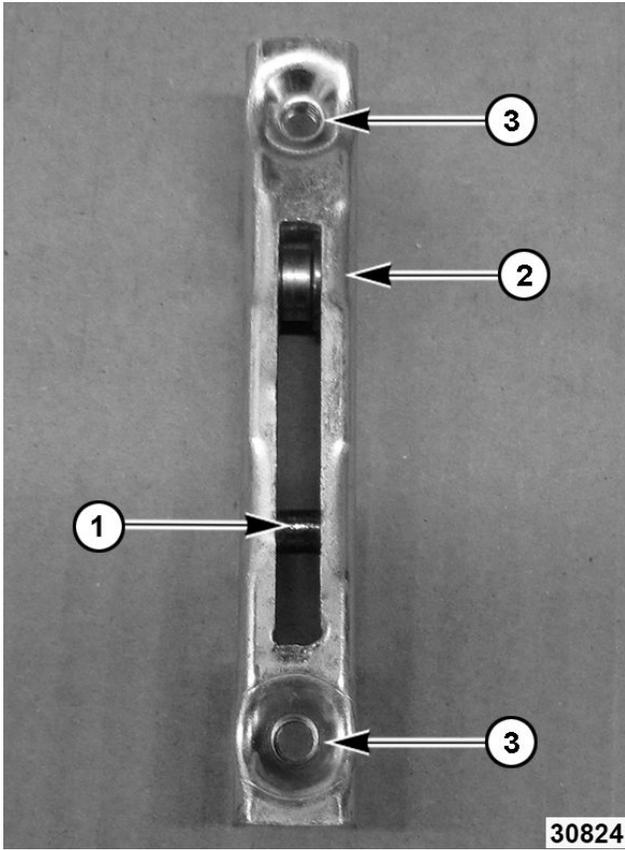

Fig. 74
5. Tie string or flexible wire around pin or roller on new bracket (1, 2, Fig. 74) to assist installation up through cavity channel.
6. Align oven frame and stop bracket mounting holes (2, Fig. 74) and install screws.